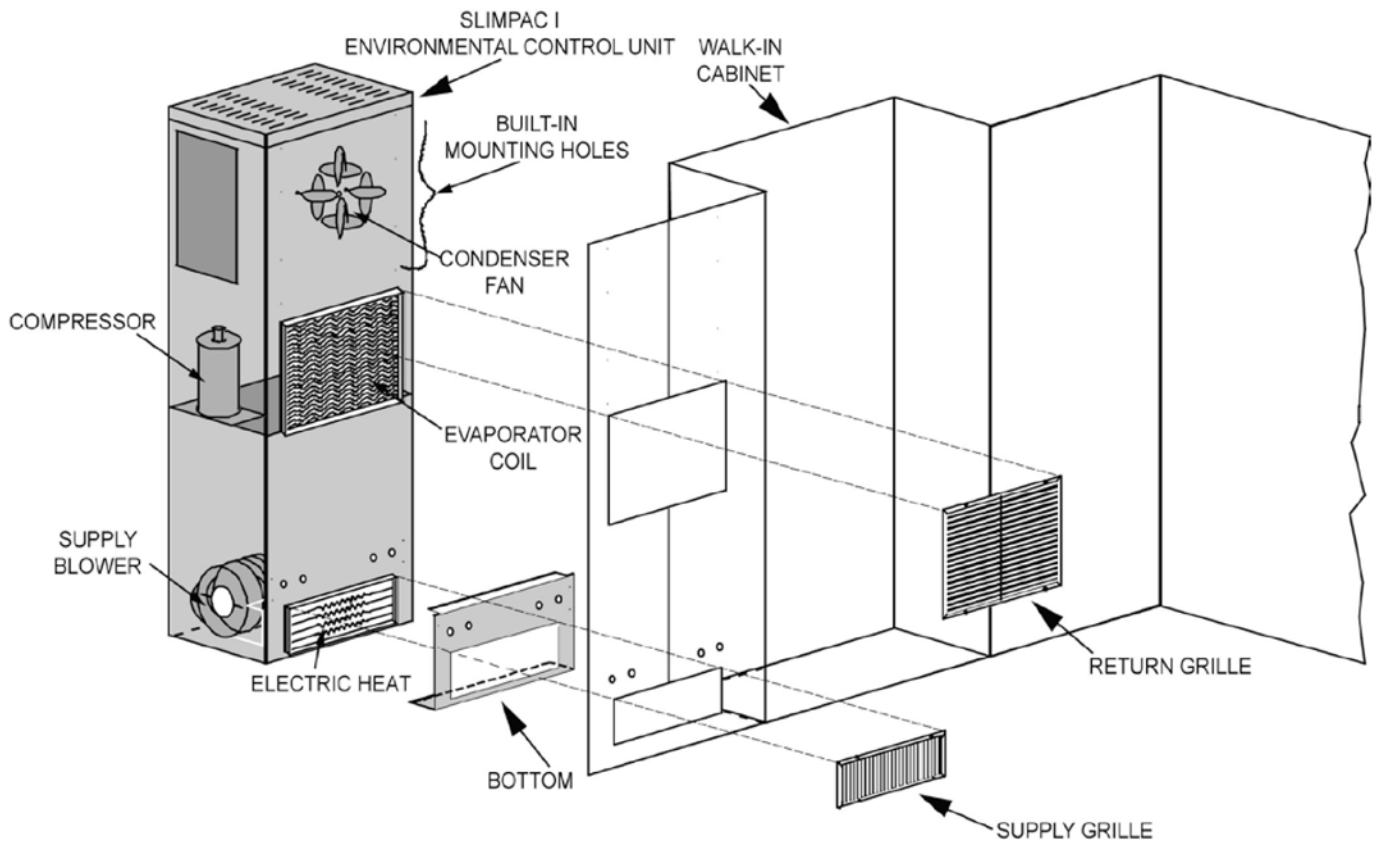

Figure 4. Wall Mounting Detail
1. Mount the sub-base on a level plane. Use a line and surface level. Connect the thermostat wire as shown in Figure 4.
- Unit shut down is available from a field provided alarm device; i.e., smoke alarm, fire stat. Install a normally closed device between red wire and the "R" terminal on the thermostat. This will disable the 24V control voltage. See Figure 4.